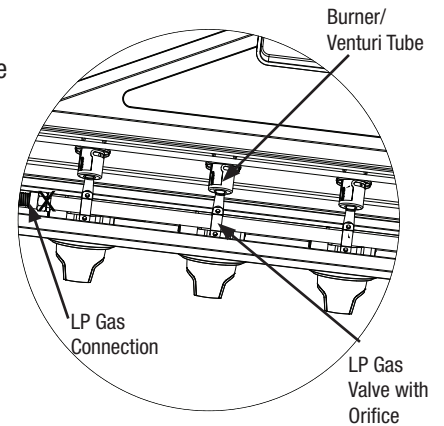

Figure 1: Main Burners
4. Please refer to diagram for proper installation (Figure 1).
5. Spoon several drops of solution, or use a squirt bottle, at all "X" locations (Figures 1, 2 and 4).